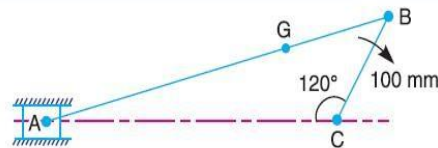

Fig. 8.5
7. An engine mechanism is shown in Fig. 8.5. The crank  $CB = 100$  mm and the connecting rod  $BA = 300$  mm with centre of gravity  $G$ ,  $100$  mm from  $B$ . In the position shown, the crankshaft has a speed of  $75$  rad/s and an angular acceleration of  $1200$  rad/s2. Find: 1. Velocity of  $G$  and angular velocity of  $AB$ , and 2. acceleration of 10M